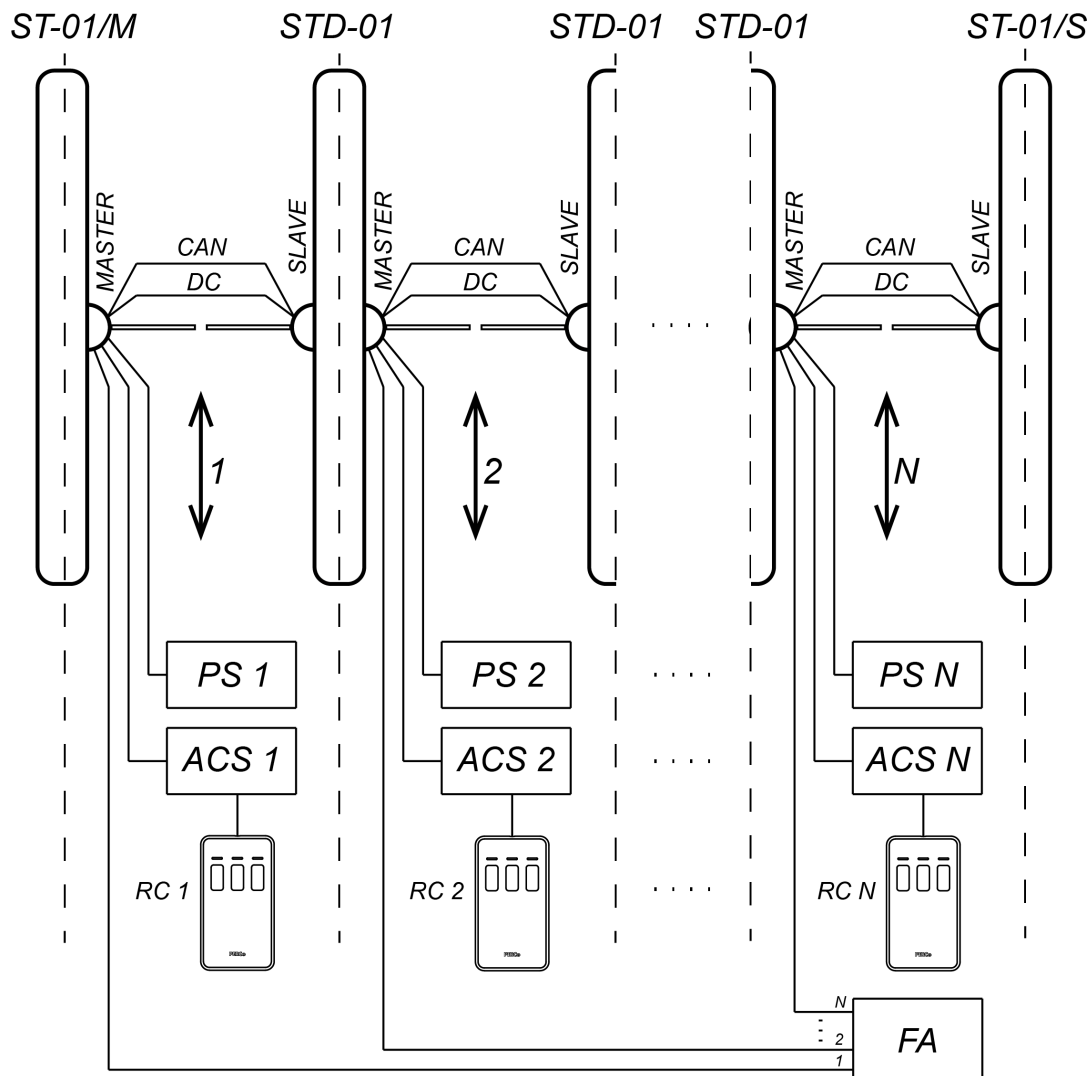
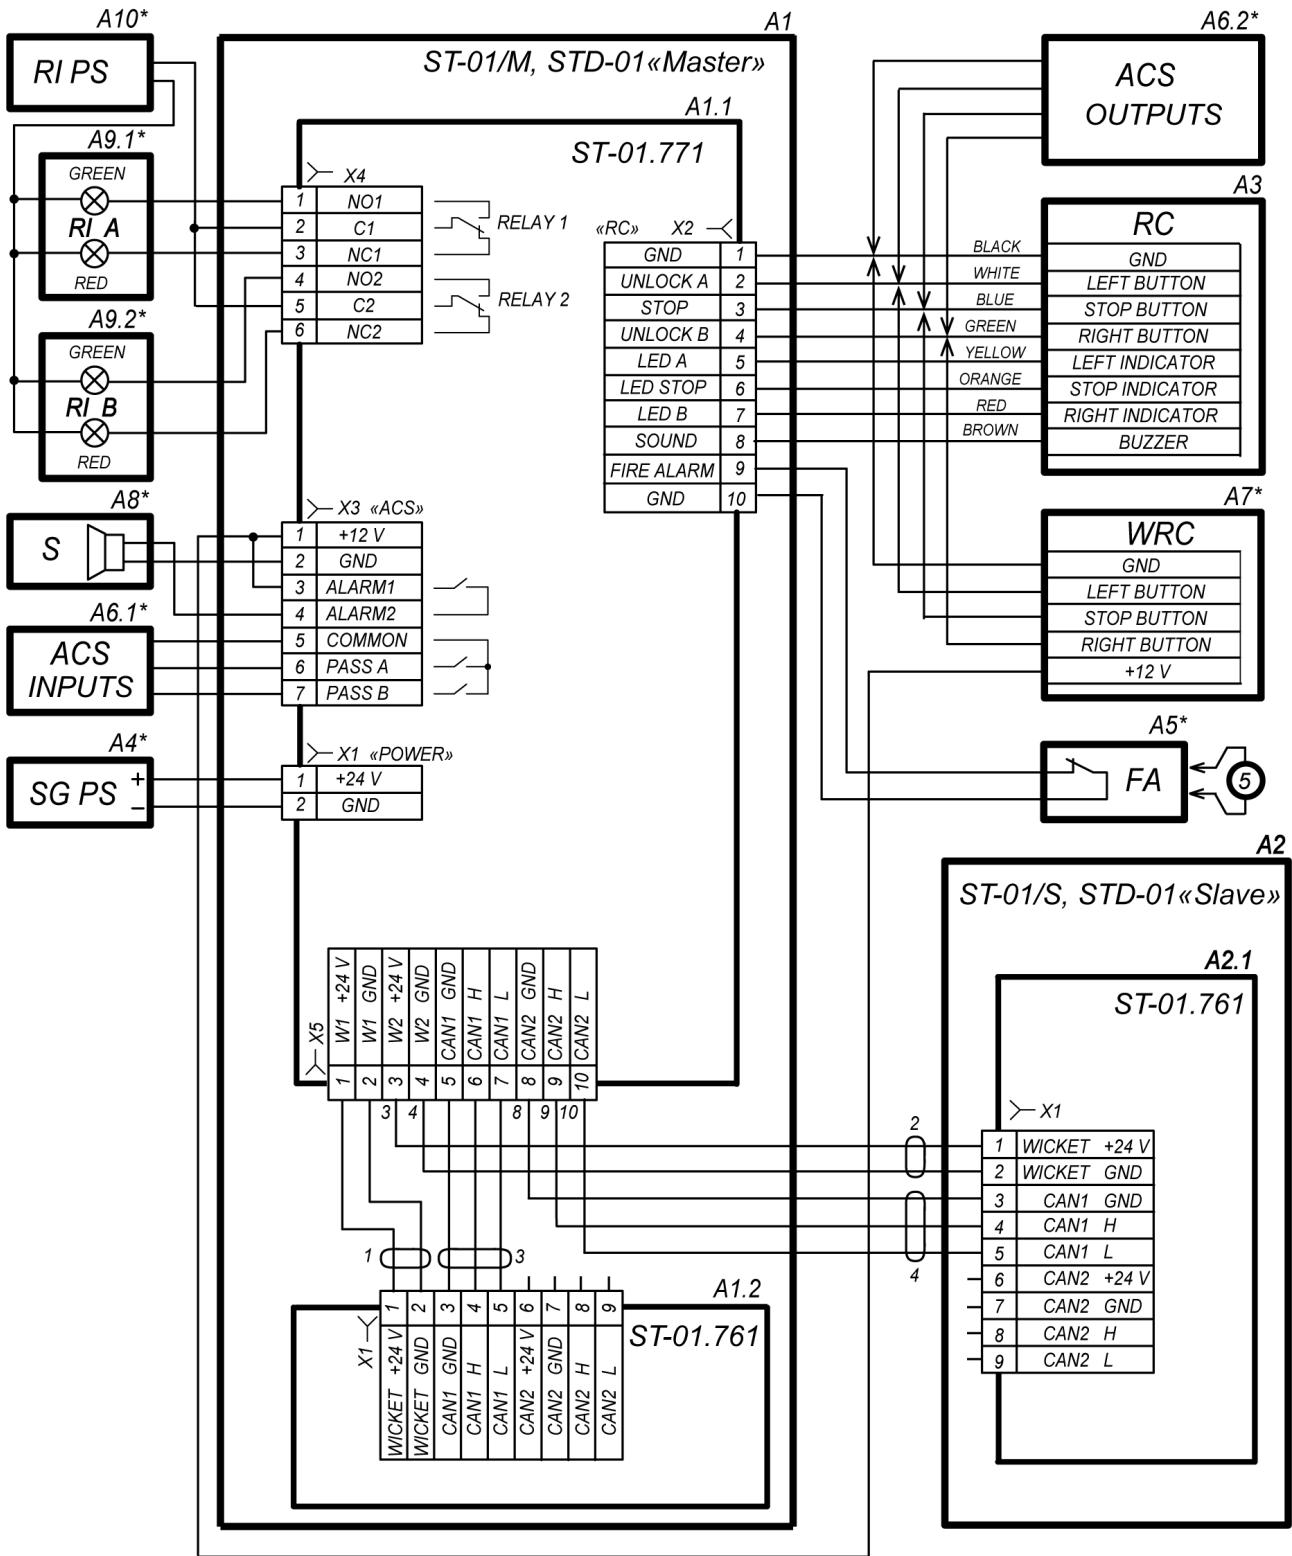

Figure 19. ST-01 speed gate and STD-01 double-sided section wiring diagram
Figure 20. Speed gate wiring diagram¹
Speed gate connection layout is given in Fig. 20. Types of cables used are stated in Sect. 8.3. The example of **ST-01** and **STD-01** connection layout with extra passage lane arrangement is shown in Fig. 19.
When it is impossible to use flexible conduit for cabling, then it is necessary to route DC and CAN cables prior to the sections installation. These cables are located under the housing of the *Slave* section central post (side of the section). To do so it is necessary to unpack the *Slave* section, dismantle the housing of the central post (see Fig. 21), take out DC and CAN cables and disconnect them from the drive control board. There are numbers on the cut-off ends of the core that correspond to the connection layout (Fig. 20).
14. Route cables for controlling the second passage lane by using the hole located in the base plate of the double-section central post (from the *Master* section side): from PS, from RC-panel or ACS-controller, from the Fire Alarm device and from optional equipment. Route DC (19) and CAN (20) cables from the *Slave* section (side of the section) or a flexible conduit for cabling.
20. Connect cables to the control board of the first passage lane according to the speed gate electric connection layout (see Fig. 11 and Fig. 20). The control board is located in the bottom side of the *Master* section central post.
DC (2) and CAN (4) cables should be connected to the **X5** terminal blocks of the *Master* section control board and to **X1** terminal blocks of the *Slave* section drive board in accordance with the conduit marking (see Fig. 20).